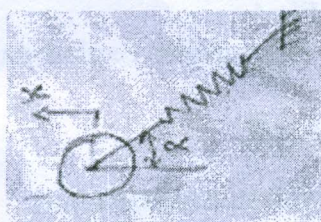

Fig.1
- [B] Find the natural frequency of vibration of system as shown in fig. 1. [5]